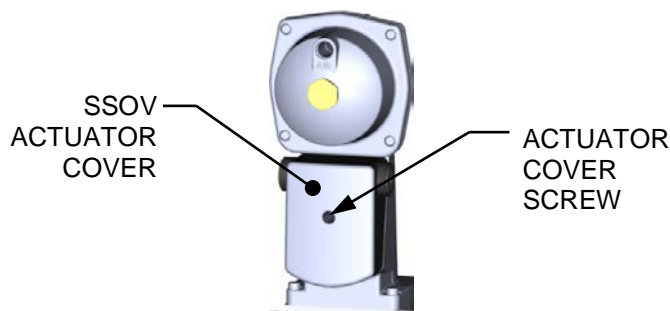

Figure 5-8: SSOV Actuator Cover Location
The SSOV, shown in Figure 5-8, contains the **Proof of Closure** switch. The **Proof of Closure** switch circuit is checked as follows:
4. Remove the cover from the SSOV by loosening the screw shown in Figure 5-8. Lift off the cover to access the terminal wiring connections.